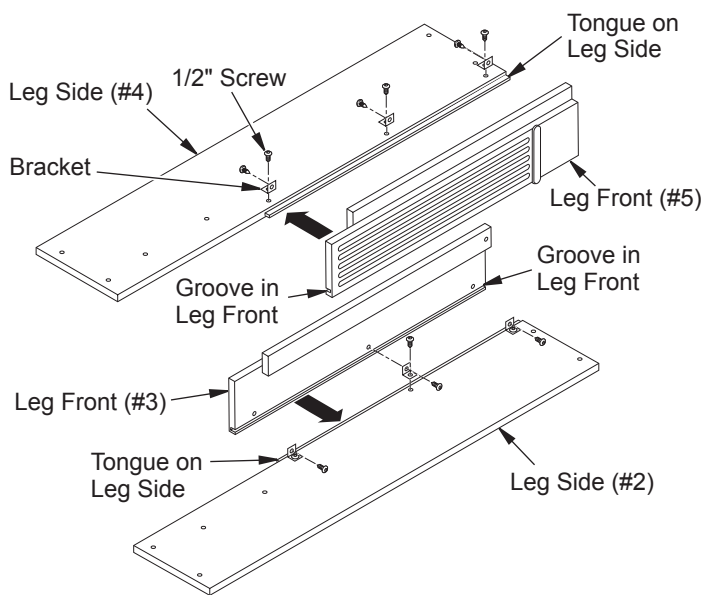

Figure 1 - Right and Left Leg Assemblies
1. Lay right side panel (#2) face down on a soft surface to avoid marking finish. Attach three brackets with 1/2" screws to bottom of right front leg (#3) leaving screws slightly loose. Face brackets out toward tongued side (see Figure 1). Place right front leg over right side (#2) matching groove in leg to tongue on side, as shown in Figure 1, matching trim on side with trim on front. Align threaded holes with brackets on side. Start three 1/2" screws through brackets. Align bottom of side and leg assembly so they are flush with each other. Hold these pieces securely in alignment while tightening (but not over tightening) screws.